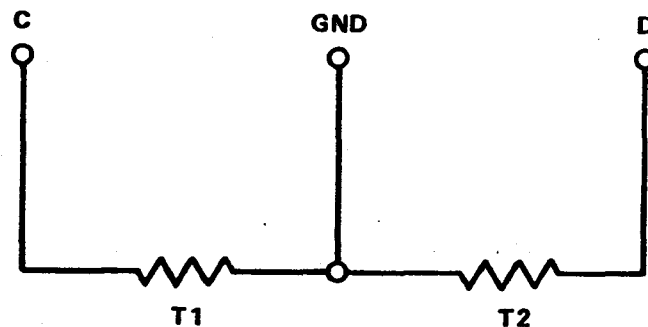

Figure 5-1. Temperature Simulation Circuit
3. Connect temperature-simulating resistors (specified in Table 5-2 for T1 and T2) to terminals GND, C, and D, Figure 5-1.
3. With power disconnected, connect temperature-simulating resistors for 80°F (27°C) value from Table 5-1 for T1 (5573 ohms) and T2 (27,900 ohms) to terminals C, D, and GND, Figure 5-1.